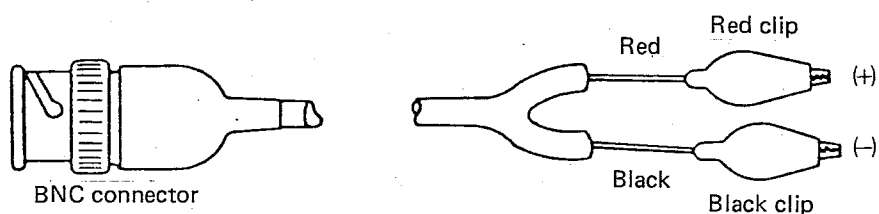

Fig. 1-2 Output Cord
- (5) The output cable has a configuration as shown in Fig. 1-2. Connect its plug to "OUTPUT", and the other end to the input terminal of the recorder.